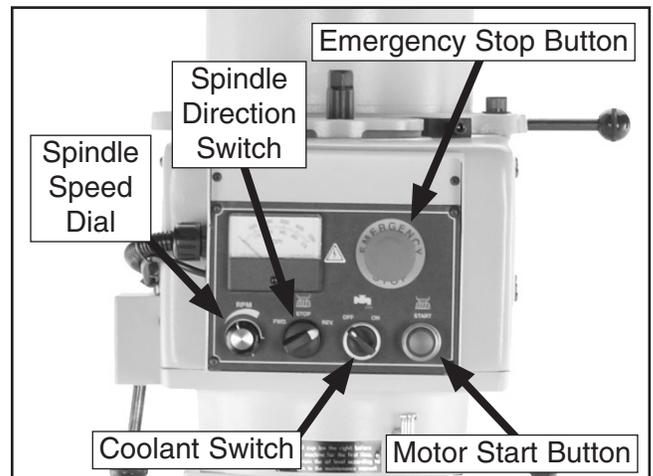

Figure 18. Control panel.
7. Push the emergency stop button in, then twist it clockwise so it pops out. When the emergency stop button pops out, the switch is reset and ready for operation (see **Figure 18**).